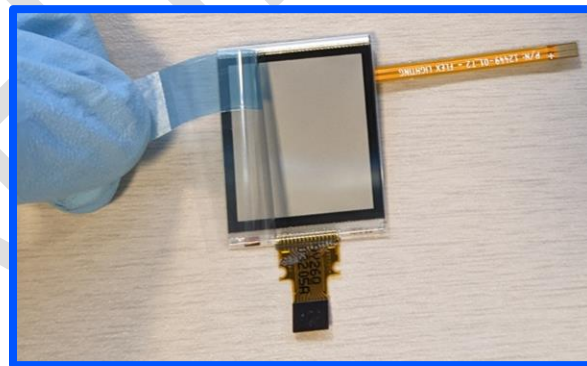

Figure 12. Removal of protective liner using speedy tab.
5. Remove the protective film slowly, using the speedy tab, pulling at a  $\sim 30^\circ$  angle from display surface. Remove under an ESD control device, like an ion blower, in a  $>50\%$  RH environment to reduce the risk of static charge. Refer to Figure 12.